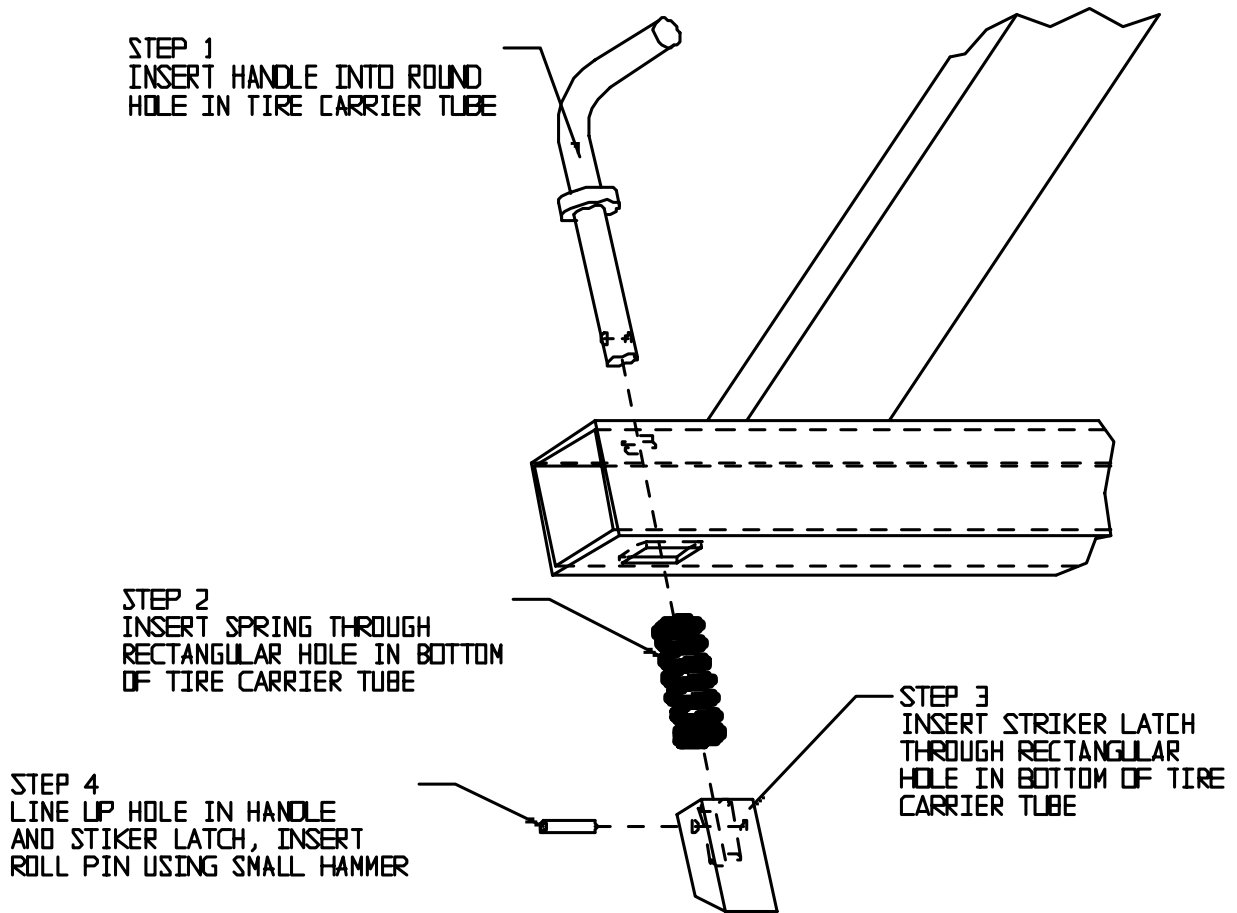

FIGURE 7, EXPLODED VIEW OF LATCH ASSEMBLY.
18. Assemble the latch mechanism. Insert the handle through the hole in the top of the tire carrier tube. Then insert the supplied coil spring through the rectangular hole in the bottom of the tube. Insert the striker latch through the same rectangular hole. The handle will be inserted into the $\frac{1}{2}$ " diameter hole in the striker. Line up the small cross-holes in the handle and the striker. Insert the roll pin, by tapping it with a hammer, through the hole in the striker and the handle. It should be flush on both sides of the striker when installed fully. See **Figure 7** for exploded view of assembly.